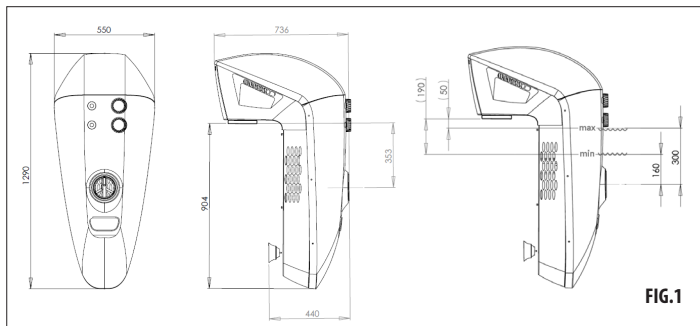

FIG.1
**Water level in the pool shall not be higher than 300 mm above the axis of the counter-current nozzle (see Fig. 1).**
In order to provide for the correct operation of the counter-current machine its nozzle shall be immersed, but not more than 300 mm below the pool water level (see Fig. 1). The optimum position of the nozzle should be within the range of 170 – 290 mm below the pool water level. As it is not necessary to let air out from the pump body, the counter-current unit can be installed even in an empty pool, before filling the latter with water.